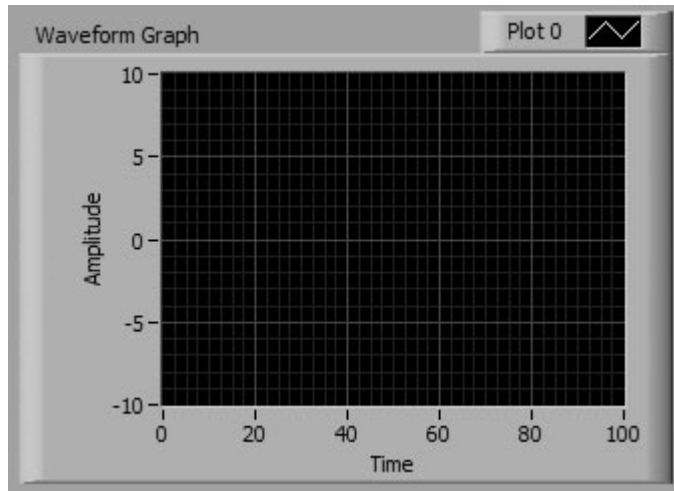

Figure 6.71
1. Open a new panel. Select **Waveform Graph** from the **Modern>>Graph** subpalette of the **Controls** palette (see Figure 6.71). Label it Graph. You'll learn all about graphs in Chapter 8, but this activity would be kind of dull without a nice pictorial representation, so we thought we'd give you a taste of them.